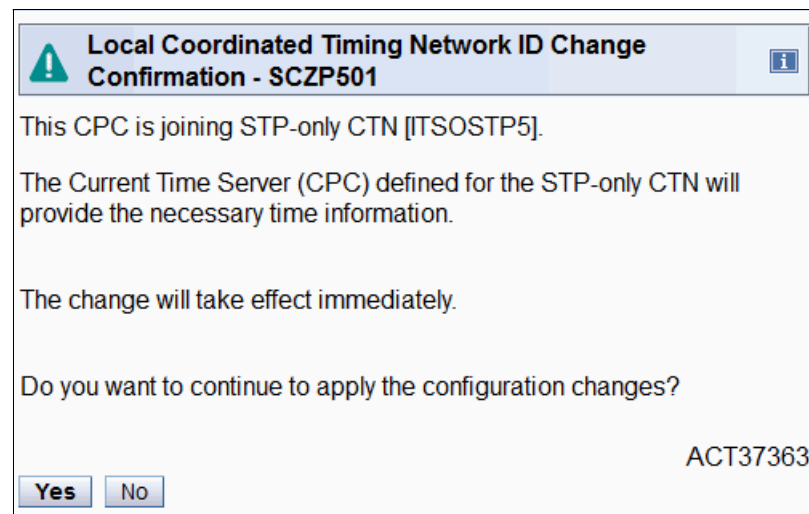

Figure 9-35 System (Sysplex) Time: Local Coordinated Timing Network ID Change Confirmation
2. The Local Coordinated Timing Network ID Change Confirmation panel opens (Figure 9-35). Click **Yes**.